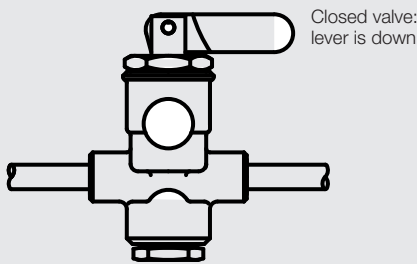

Figure 5. Operating Lever Positions
4. Make sure the lever is straight out on the ¼" operating valve in the line between the pump discharge line and the Flomatic® valve (**Figure 5**).